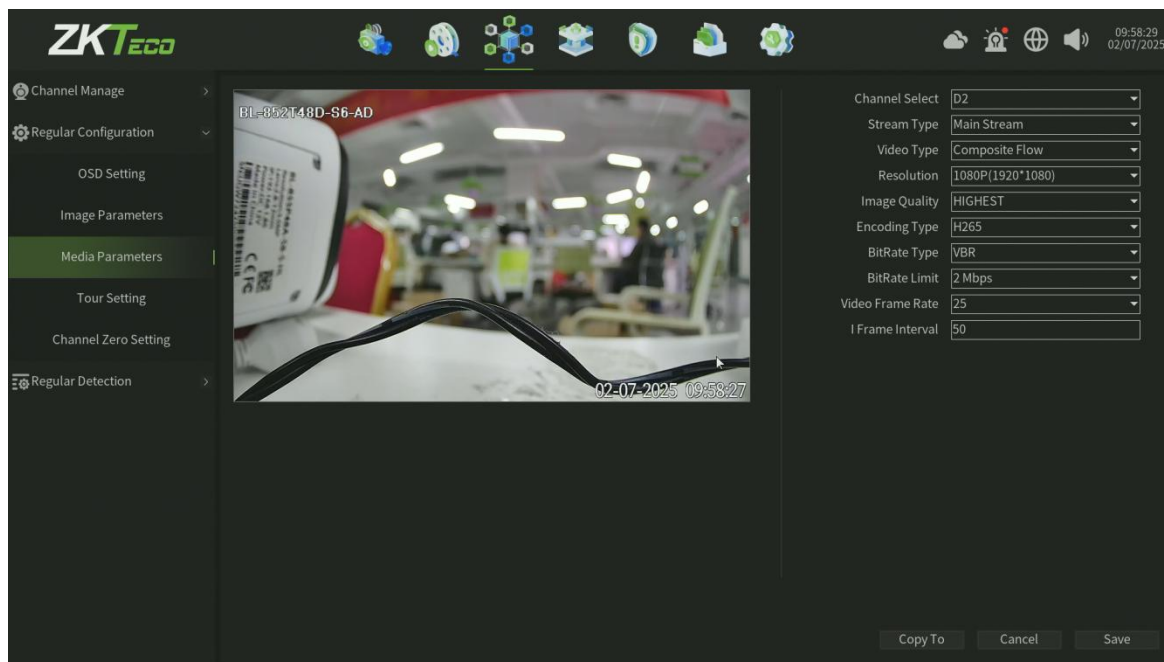

Figure 6.9 Media Parameter Setting
1. Enter the media parameters interface, as shown in figure 6.9.